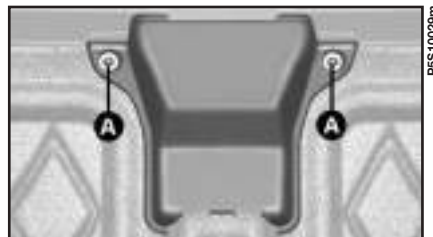

fig. 21
- 2) Loosen the two screws **A**-fig. 21 fastening the internal cover.